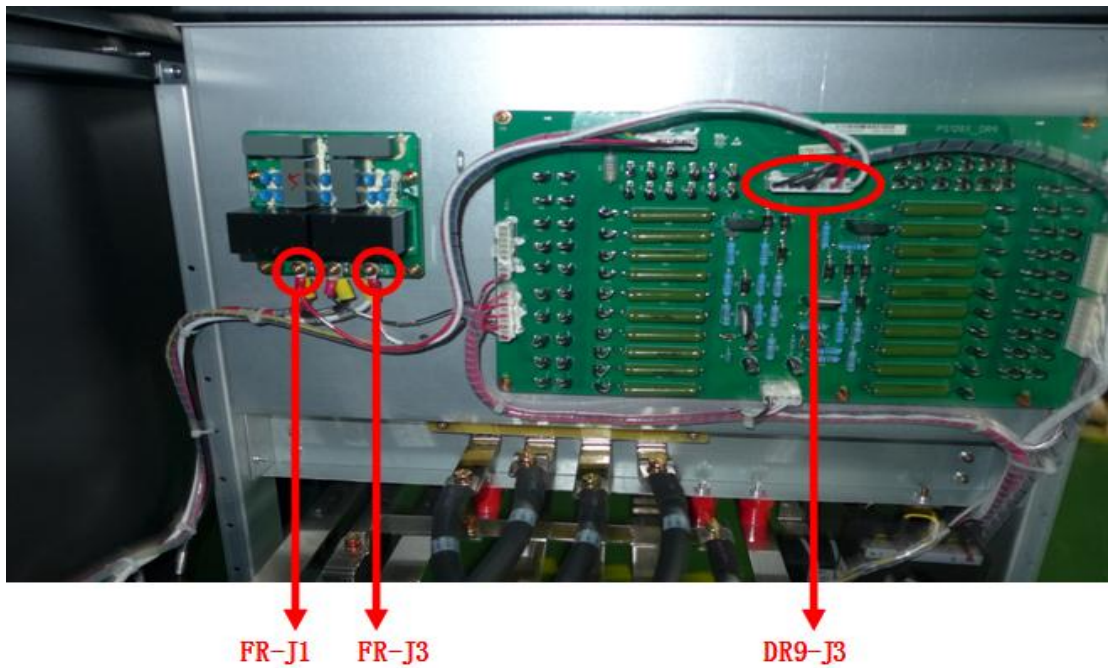

Figure 6 FR-J1 and FR-J3 cables
5. Install the bypass voltage detection cables on the battery cold start board, connect DR9-J3 terminal (Battery cold start board) to FR-J1 (Red cable) and FR-J3 (White cable), as is shown in figure 6.